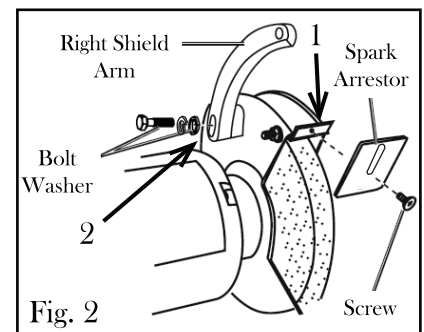

Fig. 2
1. Place the spark deflector against the right wheel guard and secure into place using a screw (Fig. 2 - 1). Adjust the spark deflector within 1/16" (0.0625") of the right grinding wheel and tighten the screw.
2. Attach right shield arm to the right wheel guard using bolt, spring washer and flat washer and secure into place (Fig. 2 - 2).